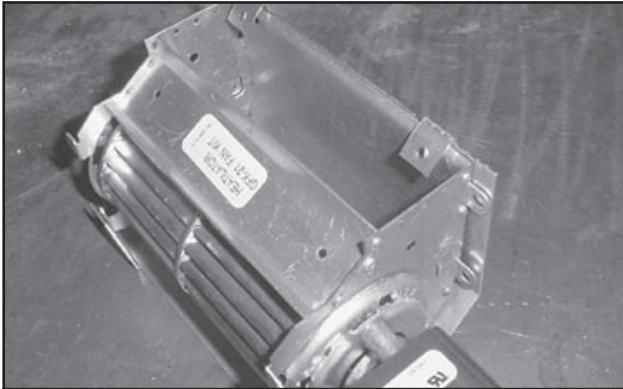

Figure 1 Fan Bracket-No screws
- Place the fan bracket around the fan. See Figure 1.